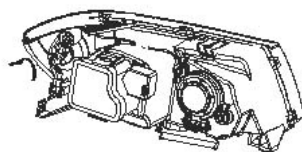

Fig. 4-77
- (8) Remove steering light of left headlight as shown in Fig. 4-77.